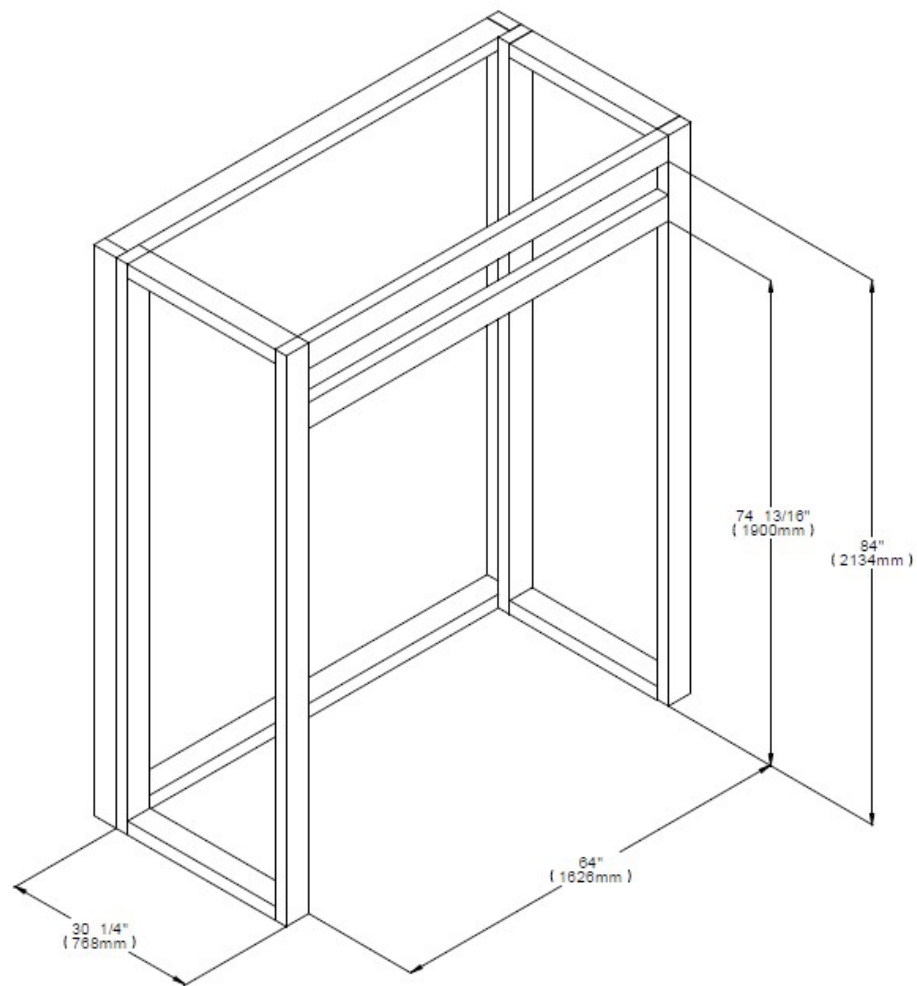
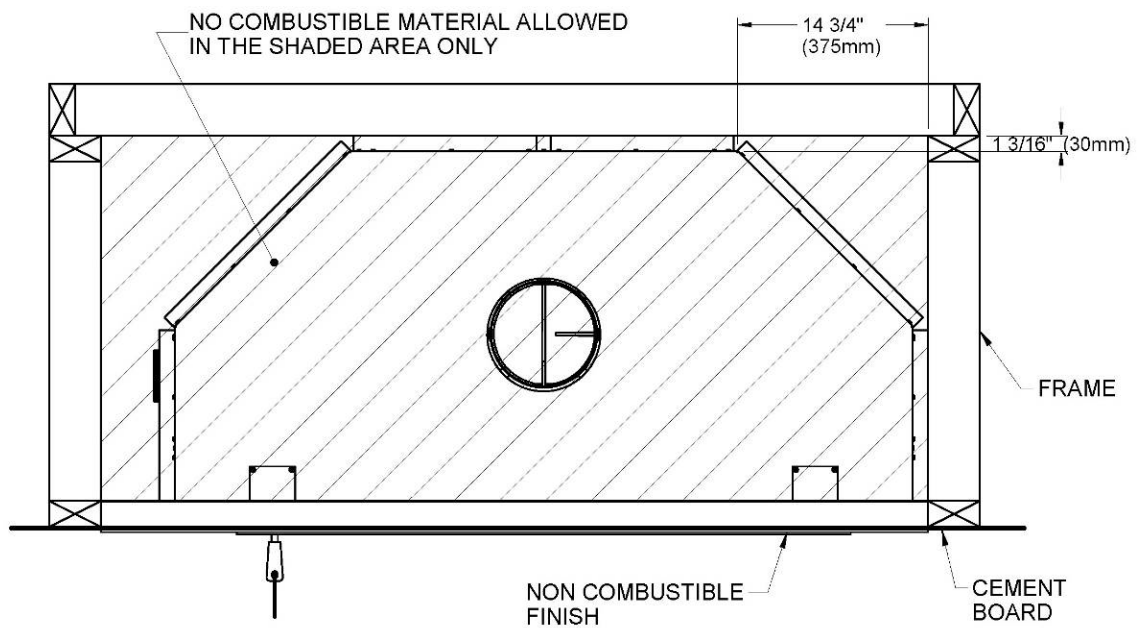

Figure 11
Figure 12
B. Frame the fireplace with vertical studs on each side of the fireplace running from floor to ceiling (**see Figure 11**). Position the studs back from the front edge of the fireplace, leaving a space the thickness of the facing material so that the facing can be installed flush with the fireplace facing (within limitations of **Figure 12**). Frame headers between the vertical studs only as follows: